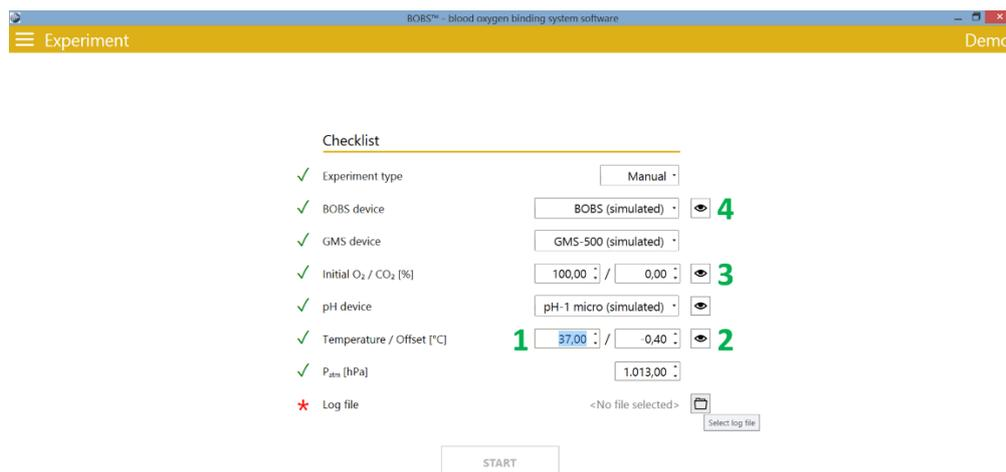

Figure 15: Temperature offset.
3. Set the desired experimental temperature (1, Figure 15).
4. Set the temperature offset value (1, Figure 15) using Table 1 for orientation.
5. Click on the eye symbol to monitor the temperature till set values are stable (2, Figure 15).